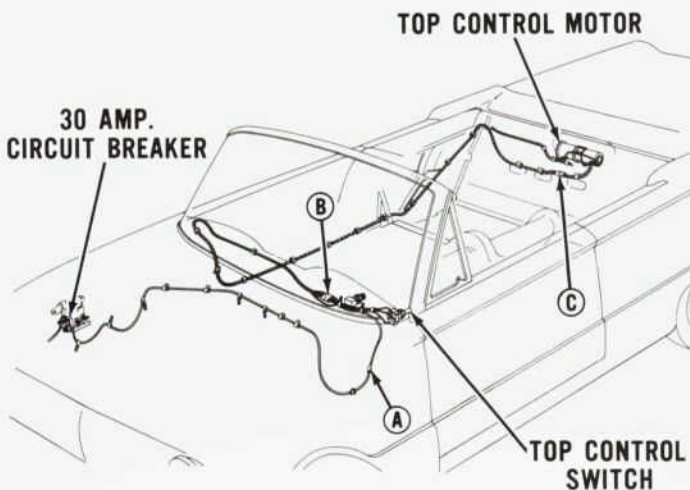

Figure 1—Convertible Top Electrical System
The conventional convertible top electrical system uses an electric motor, a control switch, a circuit breaker and the necessary wiring to complete the circuit as shown in the illustration (Fig. 1).
1. Connect one test lamp lead to the black (feed) wire of the top control switch, connect the other lead to a good ground (Fig. 3). The illustration, Fig. 1, shows the approximate location of the top control switch. If the test lamp lights there is power at the switch. If the test lamp fails to light, there is an open or short circuit between the battery and the switch.